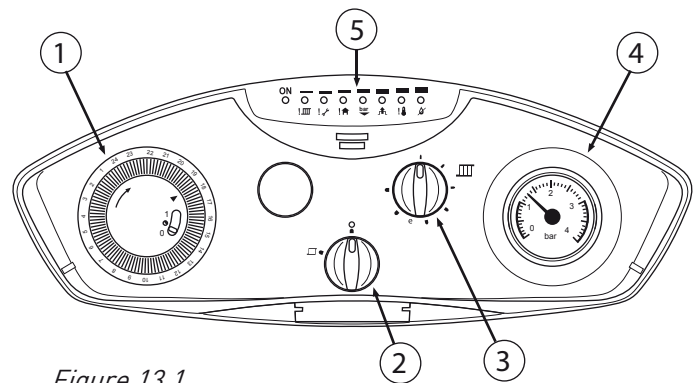

Figure 13.1
13.2 Re-set function: Should the boiler lock out at any time, please check the gas supply and ionisation probe position, the boiler may be re-started by switching to standby "0" position (Switch 2 Figure 13.1) waiting 15-30 seconds and switching back to its previous position once the fault has been eliminated.